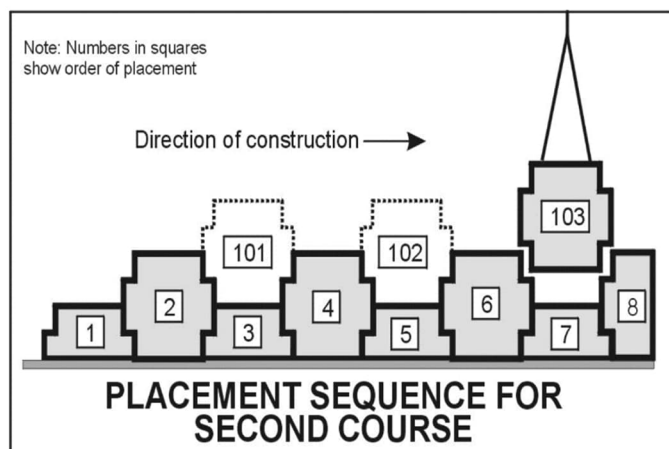

Figure 30: Placement sequence for second course.
panels at the end of the wall where construction began (Figure 30).
**STEP F-2:** Remove the two shoulder clamps holding A panels (2) and (4) to B panel (3). As each course proceeds, remove only two clamps at a time to allow for setting of each new panel. To prevent concrete-to-concrete contact at horizontal joints, set two bearing pads onto the top edge of panel (3). Refer to Figure 30.
**STEP F-3:** Set A panel (101) onto B panel (3) (Figure 30), centering the panel to ensure equal vertical joints and matching the panels front face to that of panel (3). Set the batter of the panel the same as the first course using wedges at the ear. Clamp the new A panel (101) to the initial course panels (2) and (4). Don't over tighten the clamps as they may remove the batter set in the panel (101).
**STEP F-4:** Remove the next pair of clamps; place bearing pads onto the half panel (5); and set A panel (102) onto it. Match the face of the panel just placed to that of the panel below and set its batter. Clamp the panel (102) to adjacent panels (4) and (6).